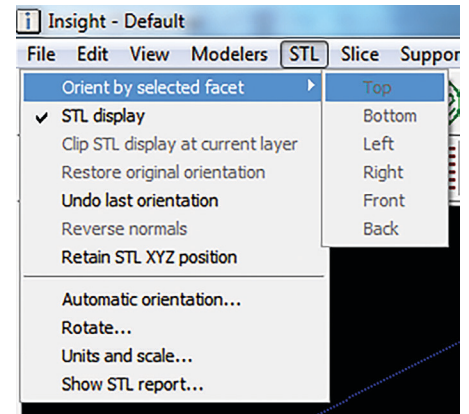

Figure 43: Orientation dropdown menu offering Rotate and Orient by selected facet.
4.1.2. Software settings (Figure 43):